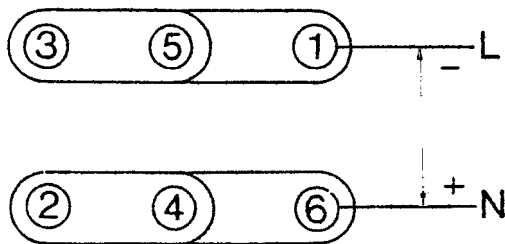
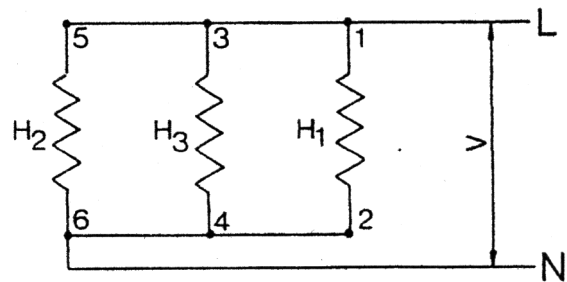

Figure 12 - 18B4A terminal-block links for single-phase operation
Figure 13 - 18B4A single-phase connection wiring diagram
2. Position the terminal-block links as shown in Figure 12 and connect the electrical supply to the heaters as shown in Figure 13.